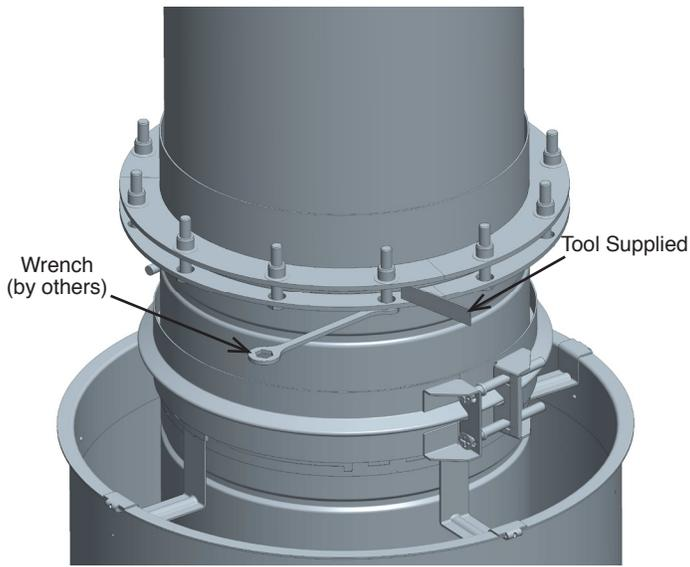

Figure 20 - Step 5 of the Adjustable Length
There is also a supplied tool with this assembly. This tool works as a spacer when tighten the bolts of the containing rings on the graphite gasket. See **Figure20**.
5. Tighten all the bolts of the containing ring. For each bolt, use the supplied tool as a guide between the two containing rings. See **Figure 20**.